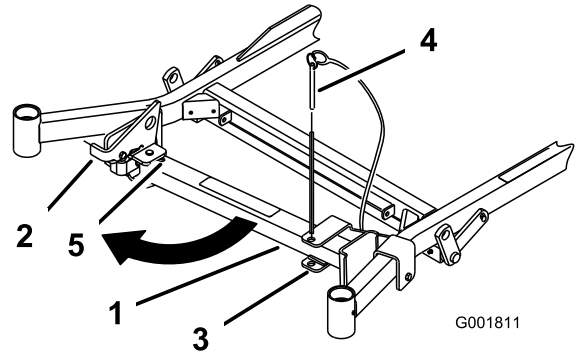
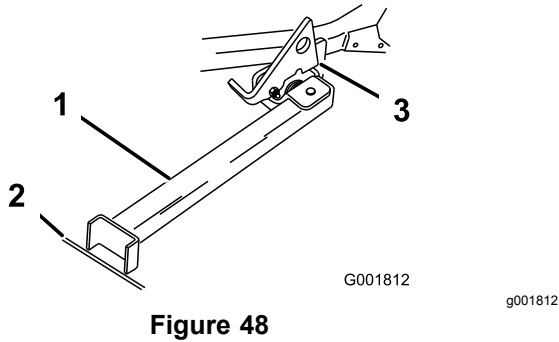

Figure 47
Figure 48
2. Remove the bracket pin (Figure 47).
- Swing the stand foot out front and slide it toward machine, into the bottom of slot (Figure 47 and Figure 48).
- Set the foot of the stand on the ground and rest the latch on the pivot tab (Figure 48).
Note: For best results, place the foot of the stand into the seams in sidewalks or into the turf (Figure 48).
- Drive the machine onto the stand. Stop when the latch drops over the tab into the locked position (Figure 48).
- Return the stand to its rest position (Figure 47).